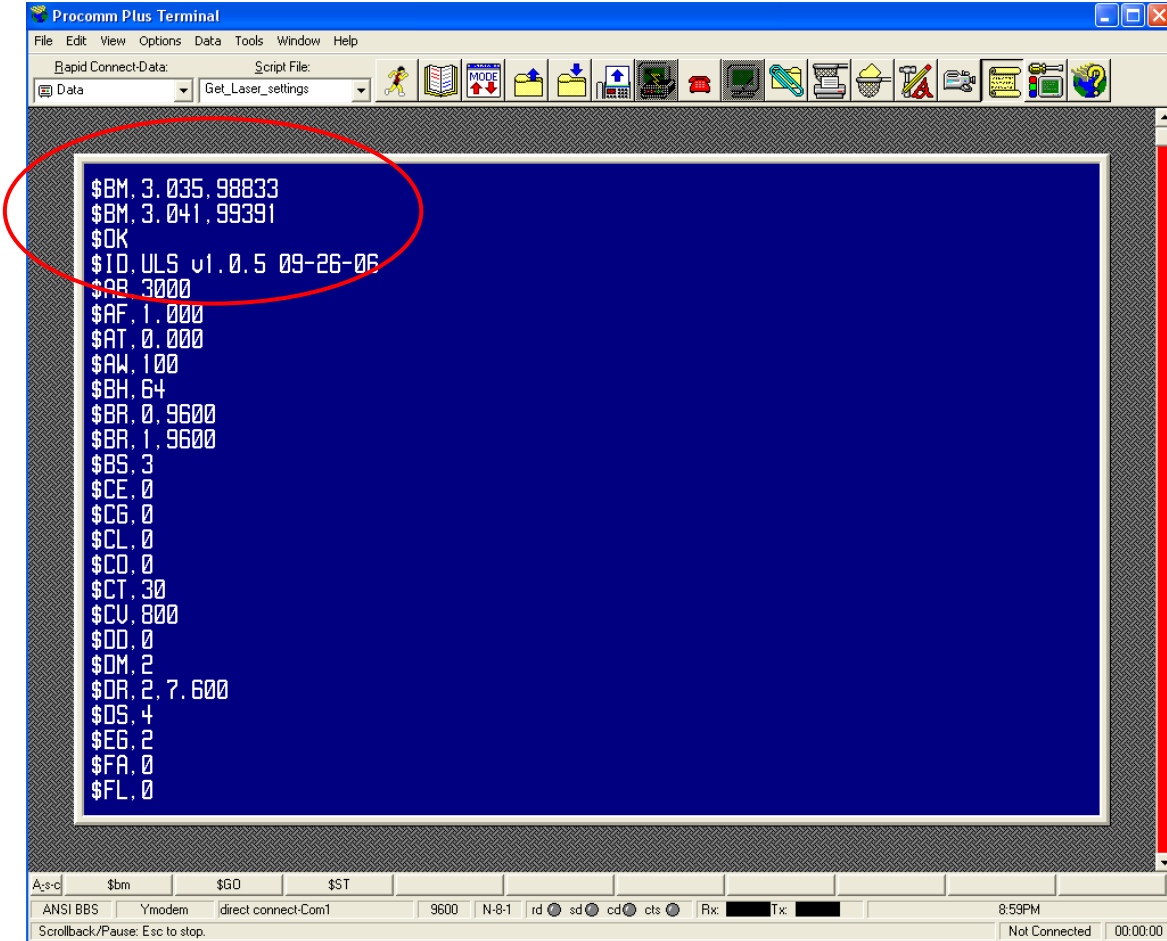
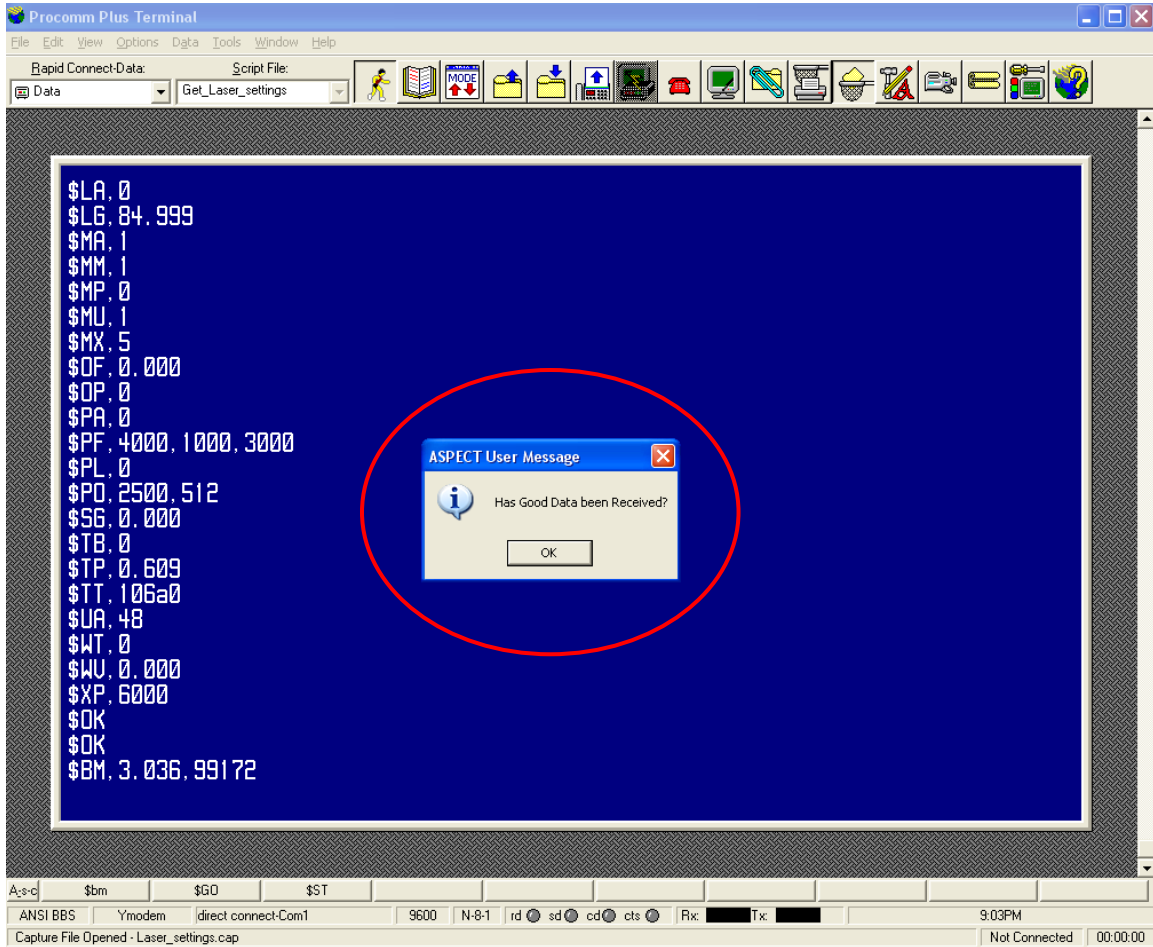

Figure 17
Figure 18
- At this point the script will send a number of commands to the sensor to get its setup values (fig. 17). The first is a data request, the second switches the sensor into the command mode, and the third shows the software version of the sensor. Table 5 contains a list of the commands used by the script.
- At the end of the script, the sensor goes back into measurement mode. You will then see a data request (\$BM) as shown on the last line in fig 18. Check the values and make sure they are close to the value at the beginning of the download (as in Fig 17). If you receive an error message, contact the CIL/SIL. Click **OK** in the User Message block to continue.